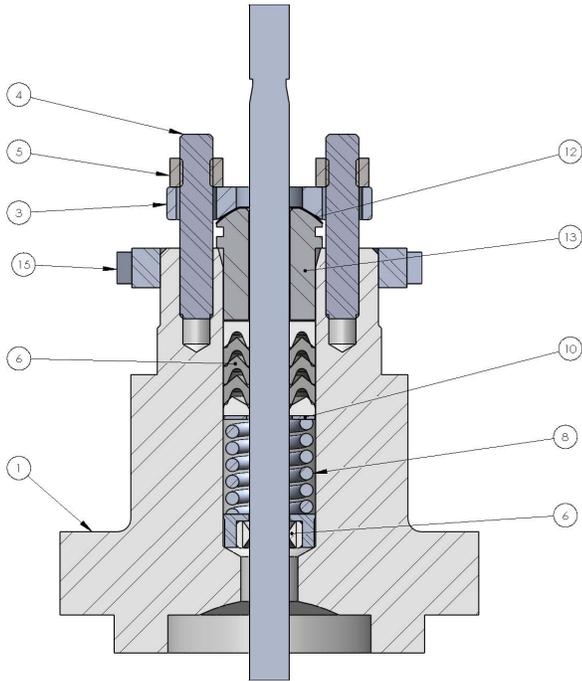

Figure 11. Plain Bonnet
13. Slide the packing follower, upper wiper, and packing flange (keys 13, 12, and 3, figure 11) into position. Lubricate the packing flange studs (key 4, figure 11) and the faces of the packing flange nuts (key 5, figure 11). Install the packing flange nuts.
14. **For spring-loaded PTFE V-ring packing,** tighten the packing flange nuts until the shoulder on the packing follower (key 13, figure 11) contacts the bonnet.